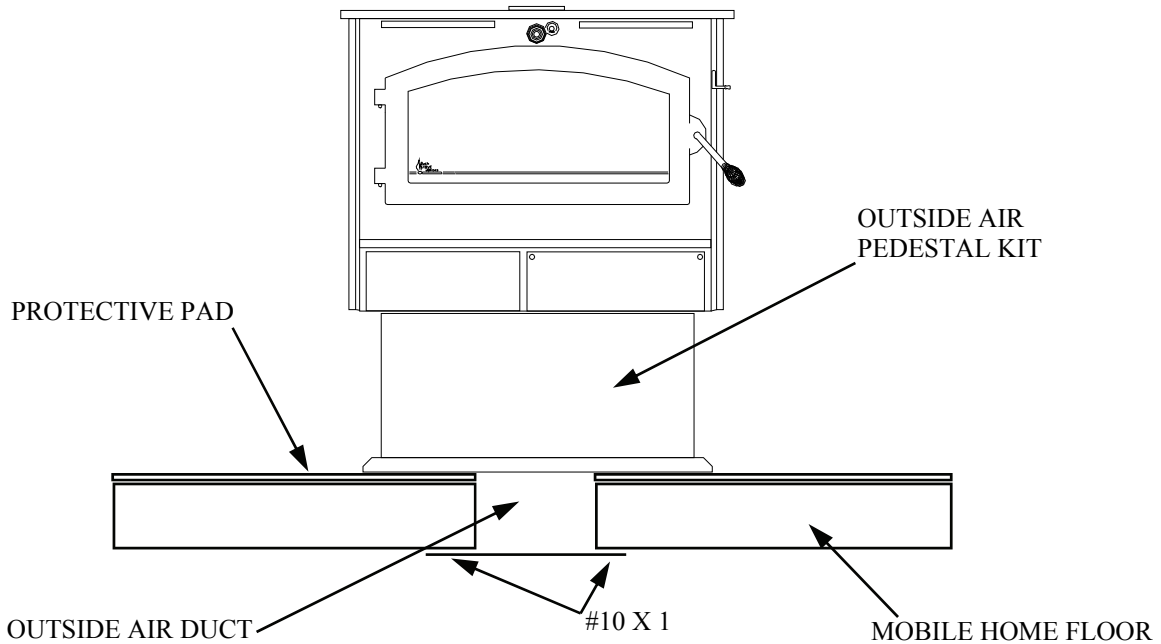

FIGURE 3
15. Secure the outside air duct to the floor using four (4) - 10x1” screws. (See Figure 3.)